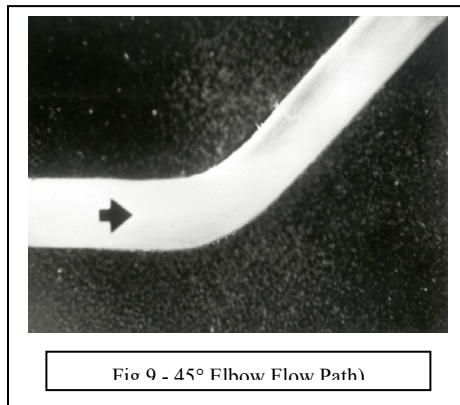
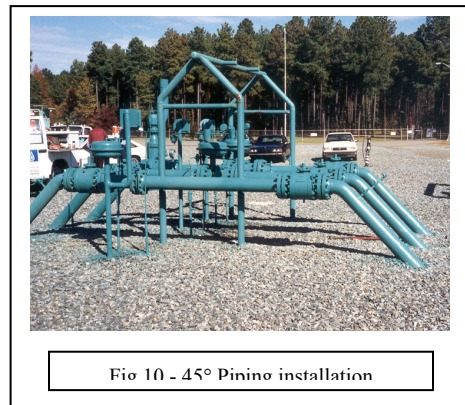

Fig 9 - 45° Elbow Flow Path)
Fig 10 - 45° Pinino installation
- If you are going underground, use a **45° fitting**. (see fig.9 & fig.10) It will reduce noise and provide a much better flow regime for efficiency. Allow at least 10 – 15 pipe diameters downstream of the valve before the 45° bend to go underground. Still use XH pipe in the design parameters for the exit piping scheme for 40 pipe diameters.